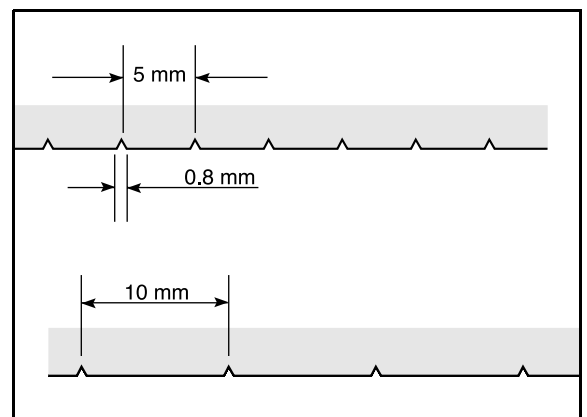

Fig. 29
- 10 Grind nicks in the knives for perforation using a high-speed grinding machine. Use small, but close-lying nicks for thinner material and larger indents farther apart for thicker material. See Fig. 29.